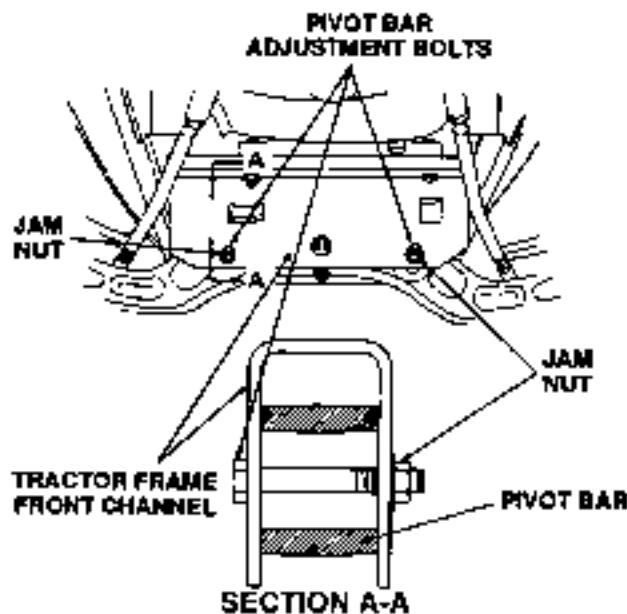

Figure 5-11. Pivot Axle Limiter Bolt Adjustment.
- Install and adjust the limiter hex cap screws (2) as follows:
- Insert the hex cap screws (2) through the frame channel and pivot axle (9), and secure with the hex flanged lock nuts (5).
- Pivot the ends of the axle up and down to check for binding. If the axle is binding, loosen the lock nuts until binding is eliminated (see Fig. 5-11).